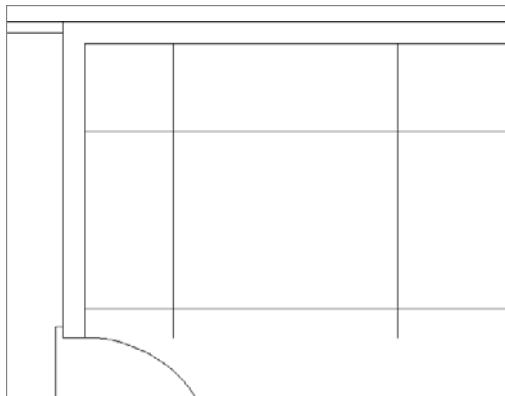

FIGURE 5.44 Offsetting wall lines to create the counter
4. Next, offset the inside top wall line 6'-0" (1829 mm) (the sum of the two counter dimensions and the stove dimension) downward (see Figure 5.44).